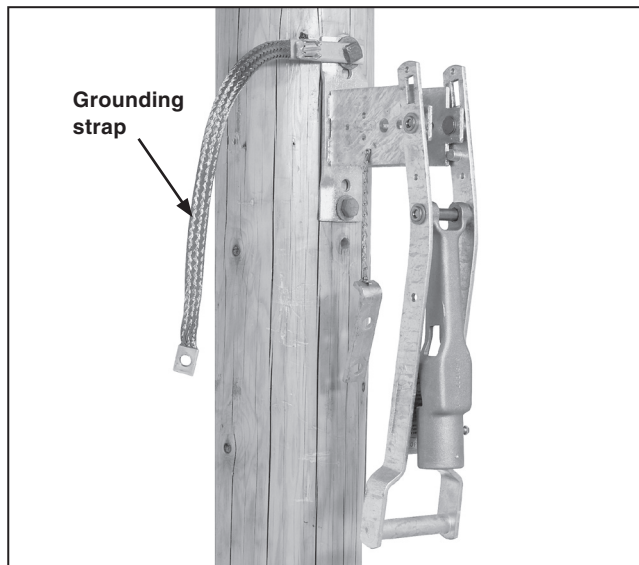

Figure 16. Mounting the operating handle.
**STEP 27.** Mount the operating handle as shown on the erection drawing. At the same time, use one of the operating handle mounting bolts to attach one end of the grounding strap (the end with the grounding connector attached) to the handle mounting plate. See Figure 16.●■